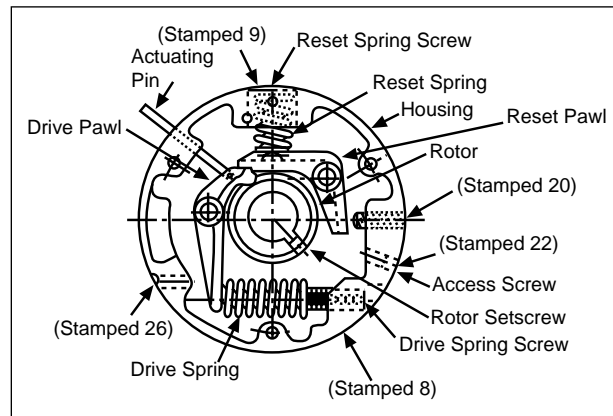

FIGURE 4 – CLUTCH INTERNAL COMPONENTS
- After the overload condition has been corrected, rotate the drive until the rotor keyway is in alignment with the hole stamped 22 located on the outside diameter of the housing (see Figure 4).
- Reset the clutch by inserting a hex wrench into the reset screw shown in Figure 4, and turn the screw clockwise until the reset pawl releases the drive pawl. Refer to Table 5 for the proper wrench size.